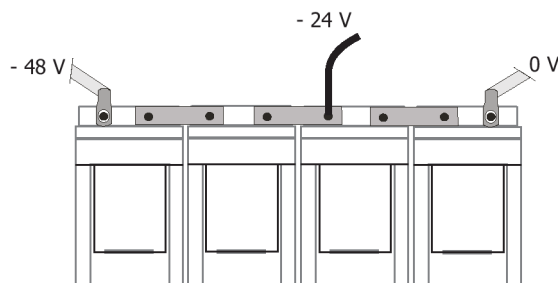

Figure 4-14 2-block Symmetry Measurement (for illustration only)
2. For 2-block battery symmetry measurement fix one wire of the symmetry cable to the cable lug in the mid-point of the battery string, see Figure 4-14.